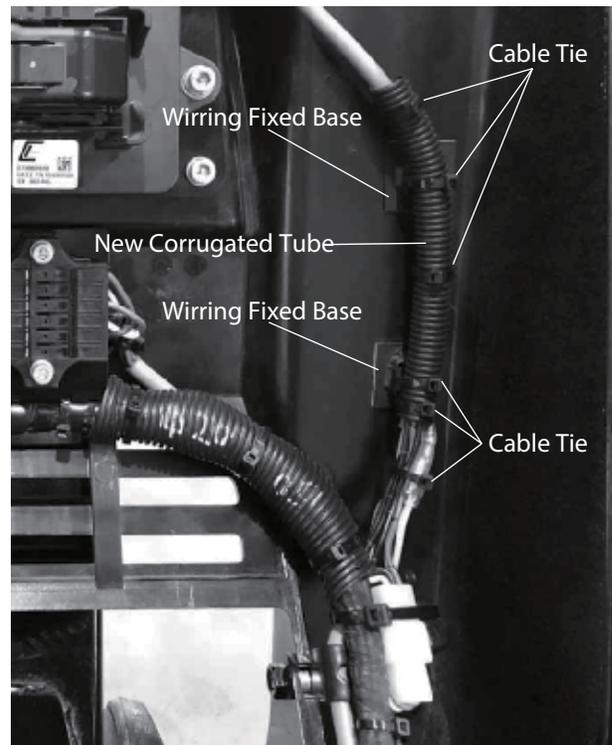

Figure 25. Conceal New Wiring Assembly
- Conceal the new wiring assembly inside the new corrugated tube (P/N 959029800), and secure it with cable ties (P/N 506010070) and wiring fixed base. See Figure 25.